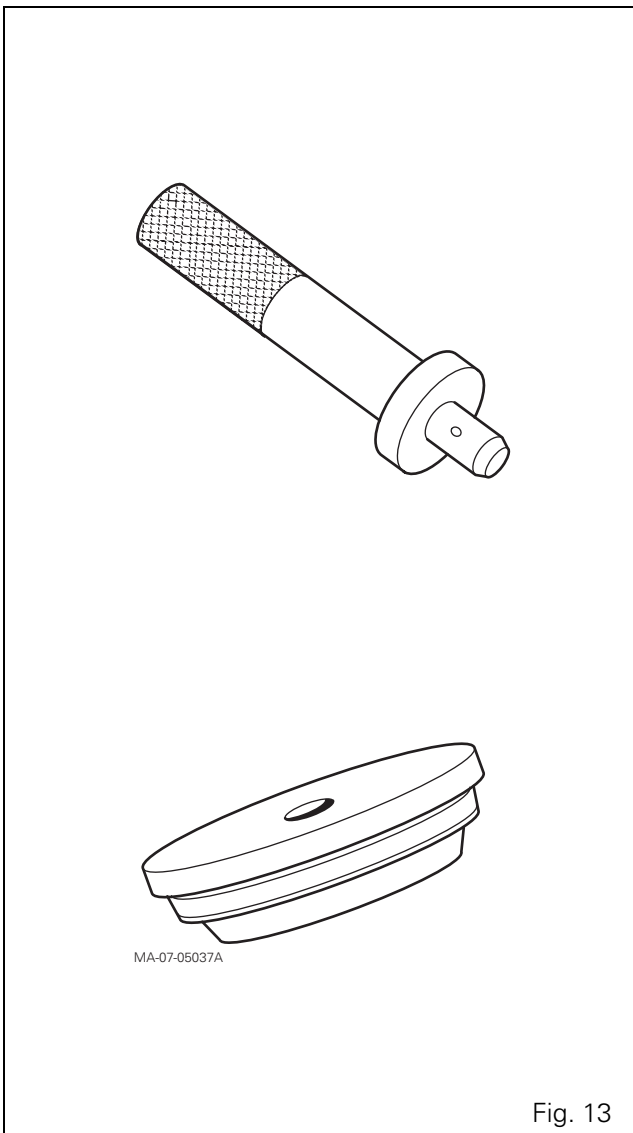

Fig. 13
- 3378115M1: Tool for fitting cassette seal (14) on the rear PTO bearing block (Fig. 13).